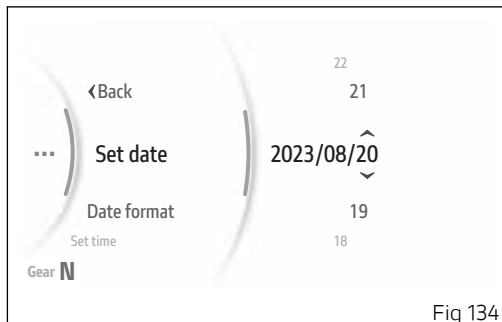

Fig 134
The arrows and available values appear for the third parameter, which is the day in the example shown here (Fig 134). Use buttons (1) and (2) to scroll and select the desired value. Press ENTER (3) to confirm.